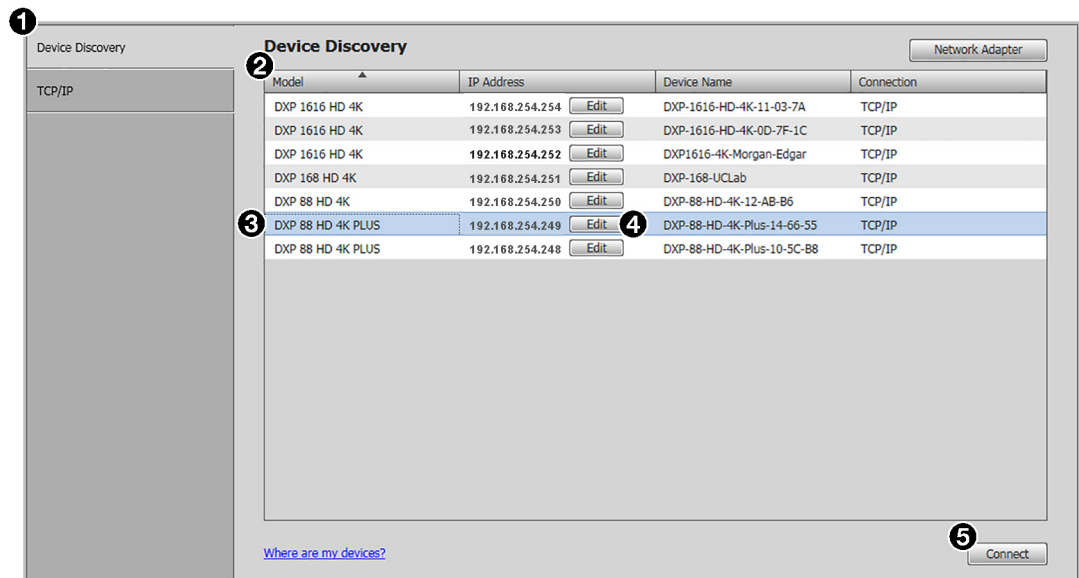

Figure 37. Device Discovery Panel
1. Click the **Device Discovery** tab (see figure 37, ①).
2. Click the desired column heading (②) to sort the category in ascending or descending order.